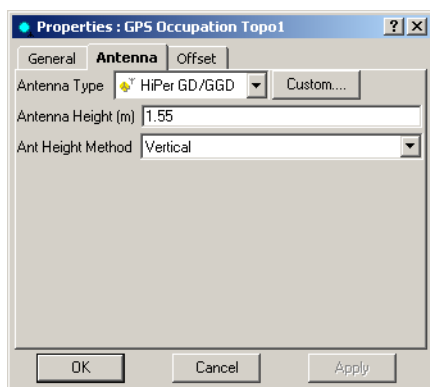

Figure 4-82. GPS Occupation Properties – Antenna Tab
3. On the **Properties** dialog box, click the *Antenna* tab (Figure 4-82 on page 4-62).
1. To add a new antenna type to the antenna list or to edit an existing antenna type, click **Custom** in the *Properties* dialog box for a GPS Occupation (Figure 4-82).